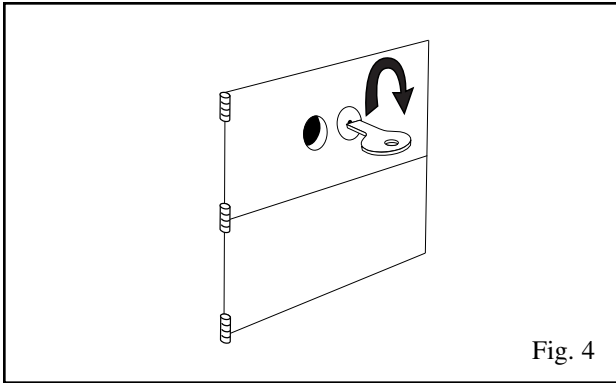

Fig. 4
4. Use the guard key and disengage bolt. See Fig. 4. If door does not open, then it becomes necessary to use the Door Puller device No. DP-7B. The Nose Puller set is available separately. However, when ordering the No. DP-7B Door Puller set, the Nose Puller set No. NP-4B is included, along with a steel carrying case.